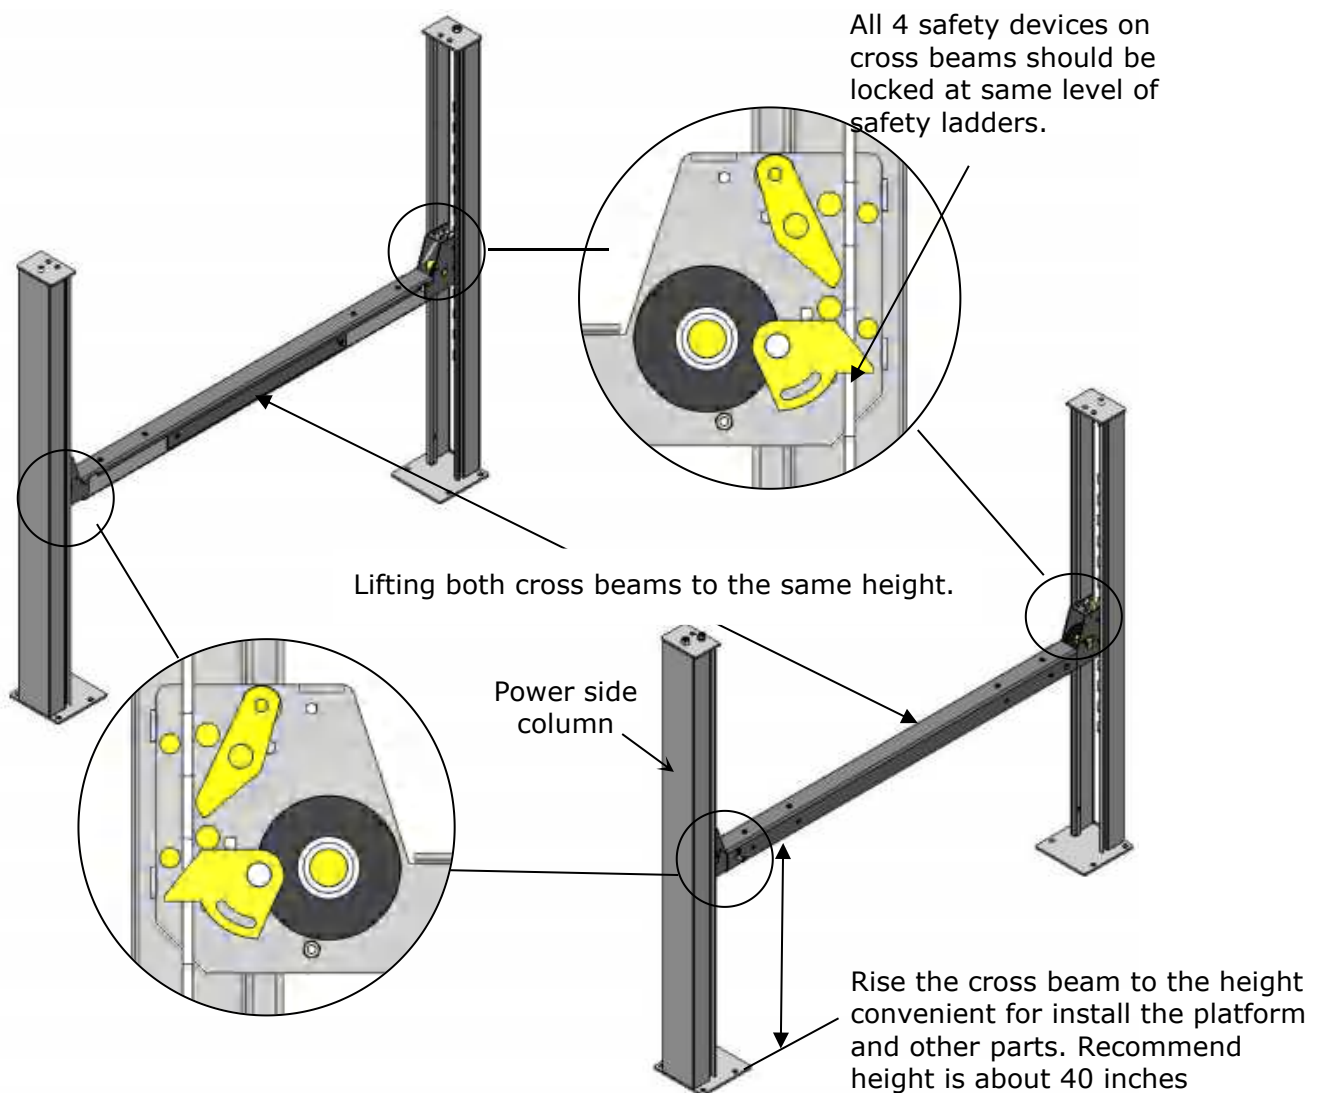

Fig. 19
F. Put the cross beams at the same height and lock on the safety ladders (See Fig. 19).